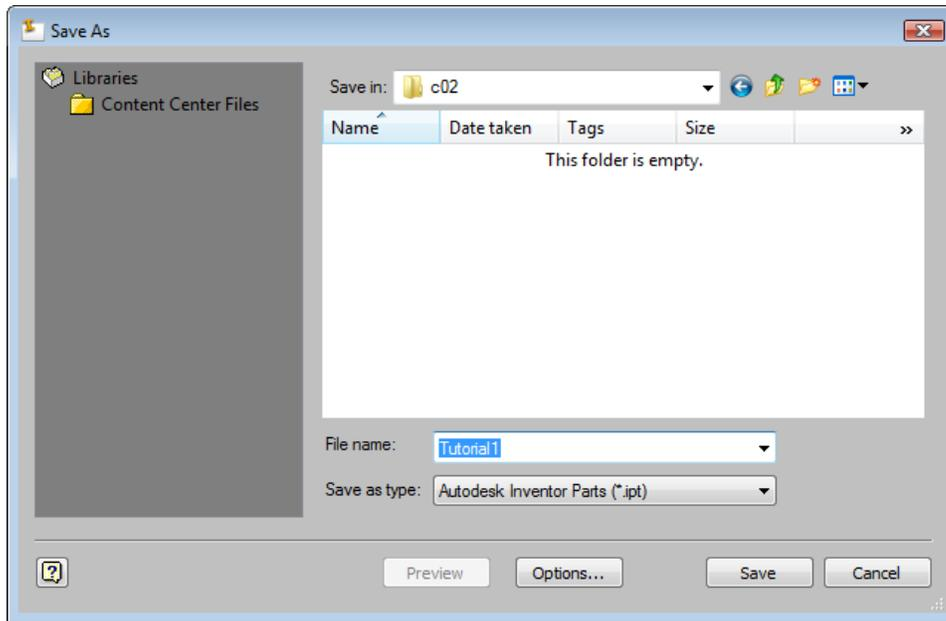

Figure 2-65 The *Save As* dialog box
4. Enter **Tutorial1** as the file name in the **File name** edit box, refer to Figure 2-65, and then choose the **Save** button from the **Save As** dialog box to save the sketch.